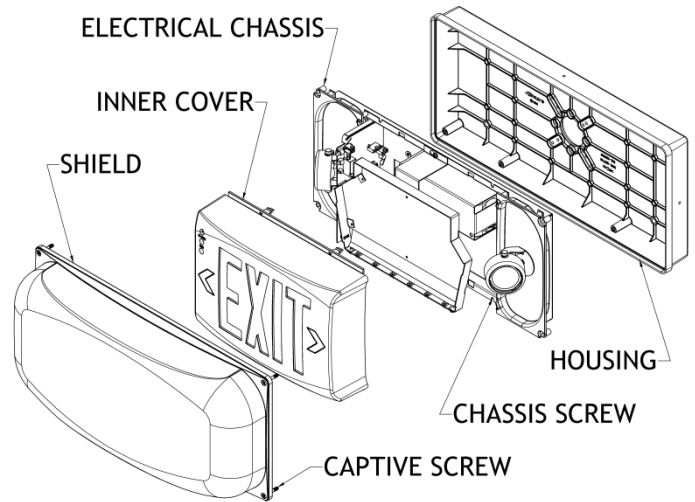

Figure 1
Disassembly (Figs. 1, 2): Remove SHIELD by loosening (4) CAPTIVE SCREWS at corners. Remove INNER COVER by disengaging snaps where shown. Loosen (2) screws retaining REFLECTOR ASSEMBLY. Shift and remove. Remove (4) CHASSIS SCREWS and set aside for reuse. Remove ELECTRICAL CHASSIS assembly.
Wiring (Figs. 1, 2, 5, 6): Reinstall ELECTRICAL CHASSIS assembly using the CHASSIS SCREWS, observing proper orientation (PC board at left), routing 12” supply wire pigtails through opening in GEAR TRAY. Connect supply ground to GROUND WIRE provided. Connect supply wires to appropriate TRANSFORMER leads. Lead color coding: White= Neutral, Black= 120V, Orange= 277V, Blue= 347V. Separately cap off all unused leads. Connect remote loads (if used) to appropriate terminal blocks. Refer to chart for maximum allowable loads.